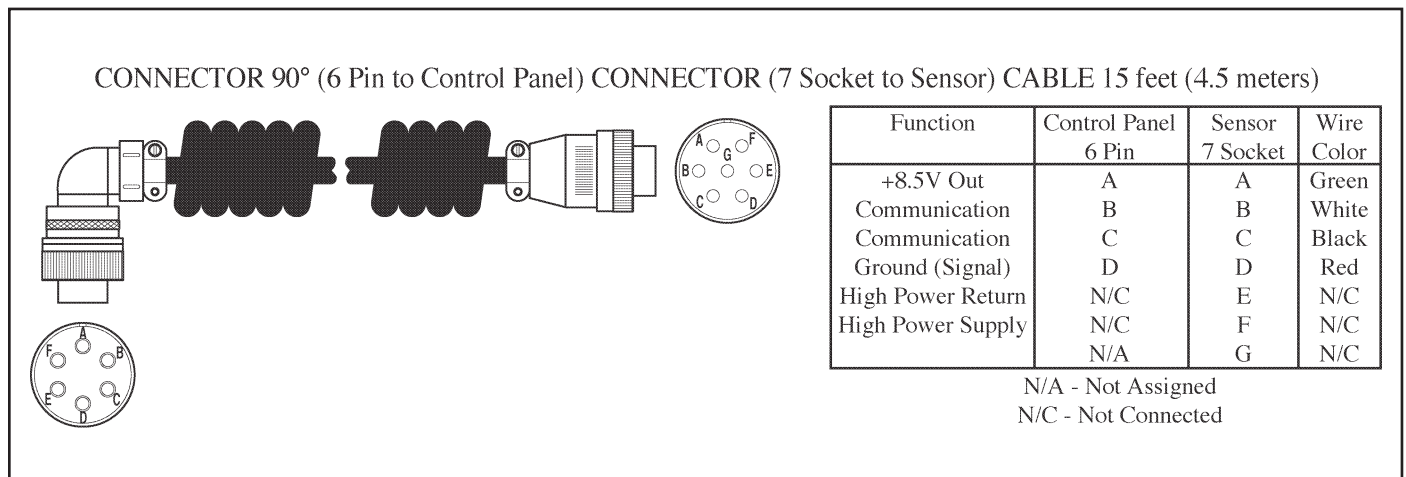

Figure 16. Sensor Cable Pin Detail
8. Connect the straight end of the Sensor Cable to the base of the Laser Sensor and the 90° end to the Control Panel. All cables only attach to the proper connectors. (Refer to Figure 16.)
7. Connect the straight end of the Sensor Cable to the base of the Laser Sensor and the 90° end to the Control Panel. All cables only attach to the proper connectors. (Refer to Figure 16.)